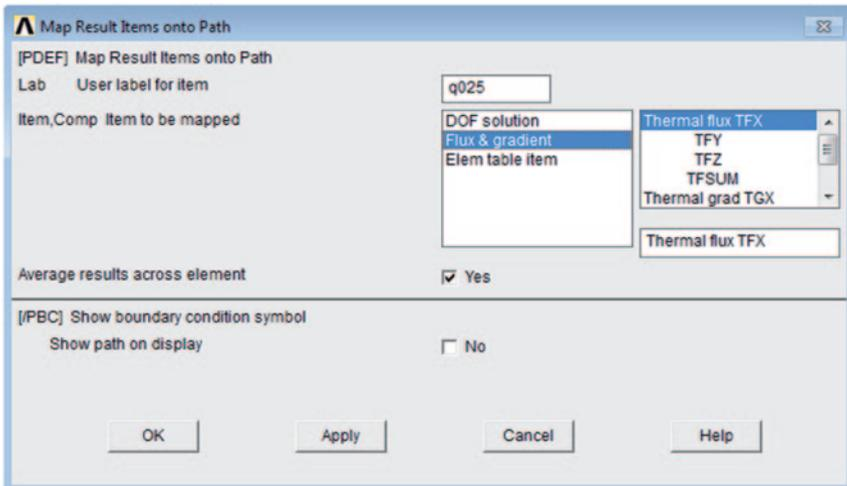

Fig. 5.32 Map result items onto path dialog box used for line plot of flux along the path Y025
- *Map Result Items onto Path* dialog box appears, as shown in Fig. 5.32; enter a unique name for the result item (e.g., **q025**); select **Flux & gradient** from the left list and **Thermal flux TFX** from the right list for the item; click on **OK**.